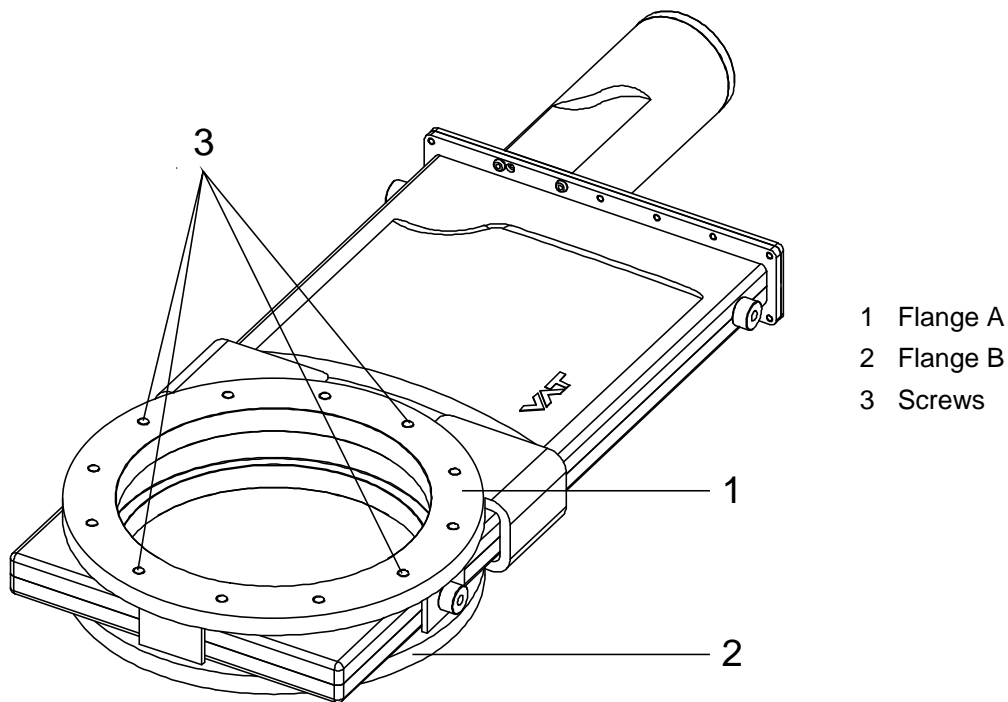

Figure 4-2
3. Clean sealing surfaces and seals of both flanges; see (1) and (2) according to «Figure 4-2» on page 11 .
5. Mount the four screws (3) according to «Figure 4-2» on page 11 evenly in crosswise order until the seal touches the sealing surface.